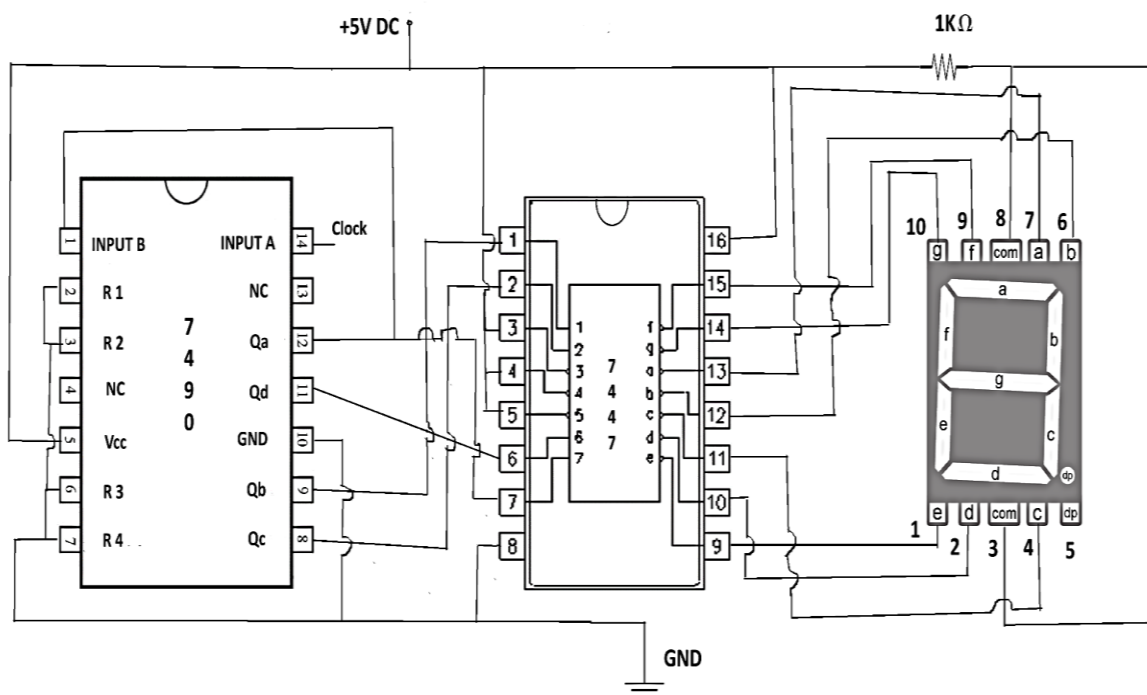

Figure 7: Connection diagram as per CASE-2
It should be noted that external CLK signal is applied at MOD-2 counter and its output Q_A acts as clock for MOD-5 counter. This is shown in Figure 7. The state diagram for decade counter is as:
7.2 Connection diagram: - The output of IC-7490 is connected to IC7447 decoder and decoder output to 7-segment display unit. Make the connections as shown in **Figure 7**, as per case-2 of observation table.